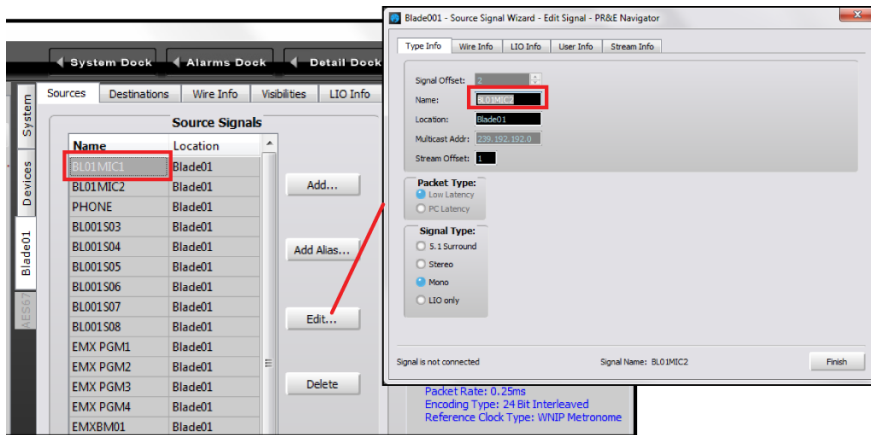
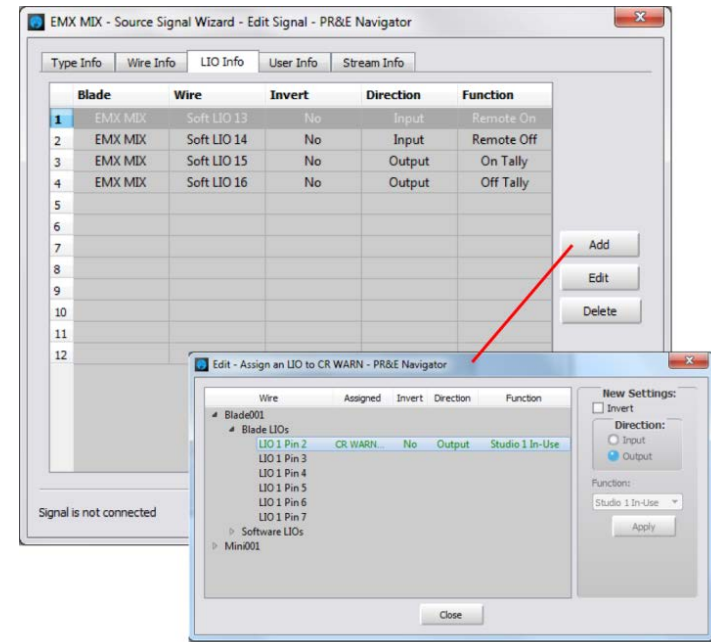

Figure 3-29 Editing a Signal
Figure 3-31 Logic Assignment tab
To edit a name, click on the name in the **Source Signals** section of the tab then type in a new name of up to eight characters. You can alternately click once on the name then click *Edit...* to open the **Signal Edit** window (shown in Figure 3-29 on page 40) and edit the name in that window.
Select the other mono signal (BL01MIC1) and click **Edit...** to open the edit window (Figure 3-29). Change the **Signal Type** selection from Mono to Stereo. You can then edit the name back to a default name like BL001SO1, to indicate Analog In 1 or, if you know what stereo device will be connected to that input, enter the device name in the *Name* entry box. Click *Finish* to close the Edit Window.
Note: You cannot edit a source or destination signal when it is connected in the Crosspoint grid. When the **Signal Edit** window opens (Figure 3-29) look at the bottom of the window to verify it shows “Signal is not connected.” If it shows “Signal is connected” you won’t be able to make any changes to that signal other than editing its name.
To create an Alias, click on a Source name (you can also set up an Alias on a Destination and a logic signal, but most times an Alias is created for a Source). For example, if you want to create an Alias for BL01MIC1, click on that name (highlighted in Figure 3-29) then click *Add Alias...* to open up the *Add Alias* window. Type in the “Talent’s name” in the *Name:* entry box. Click *Finish* to close the *Add Alias* window. The Alias name is now added as a completely new “source” to the source list.
When the logic is associated with an audio input signal, like BLO1MIC1, select that audio input name (it highlights) then click *Edit* to open the Edit Signal window (the process shown in Figure 3-29 on page 40). Click the **LIO Info** tab (Figure 3-31) to view, edit, or delete the logic settings associated with that audio signal.
Figure 3-31 shows the typical settings used with a WNIP Talent Station (TS). It uses two logic signals to carry Remote On and Remote Off commands from the TS to the EMX channel, and two logic return signals to carry the On and Off Tally logic back to the TS. These are assigned using Software LIO since the TS is a networked device. Clicking *Add* opens the **Assign LIO** window, also shown in Figure 3-31.
Clicking the *LIO Info* tab opens the **Logic Assignments** window (Figure 3-31 on page 41). On a new logic-only signal click *Add...* to open the **Assign LIO** window (also shown in Figure 3-31). To add output logic, select Output as the *Direction:*. Next, select the *Function:* from the drop down menu items. To create a CR WARN command, select *Studio 1 In-Use* since Studio 1 is typically set as the Control Room warning logic output. The physical pin number on the LOGIC connector is highlighted to indicate the pin with that logic command (each is set for input or output logic). Click *Apply* to set that logic command then click *Close* to close the window.